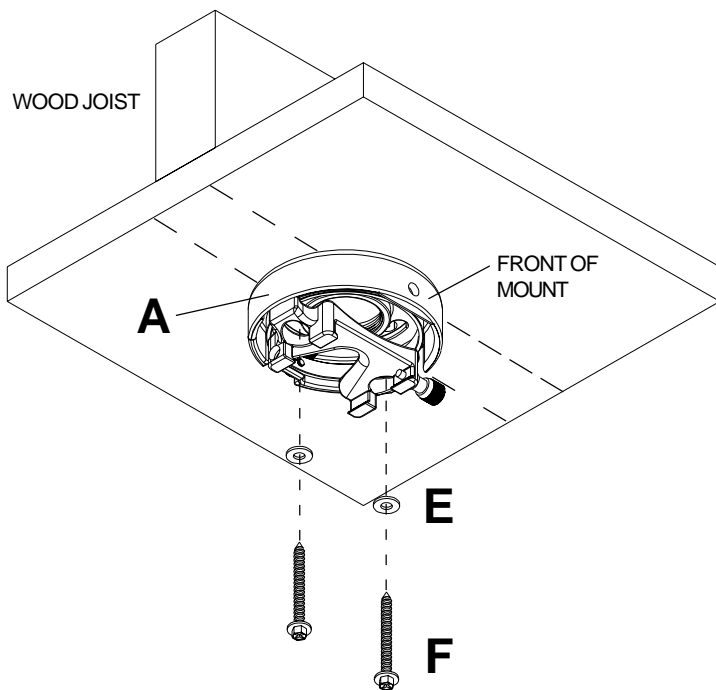
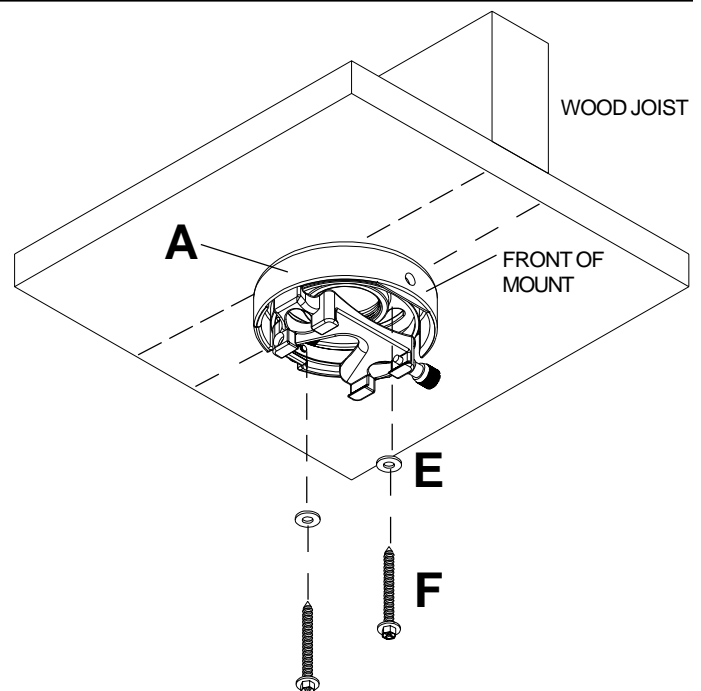

figure 1
figure 2
- 2** Drill two 5/32" (4 mm) dia. holes to a minimum depth of 2.5" (64 mm). Attach projector mount assembly (**A**) with two #14 x 2.5" (6 mm x 65 mm) wood screws (**F**) and two flat washers (**E**) as shown in **figure 1** or **figure 2** depending on joist orientation. Tighten wood screws (**F**) using 3/8" (10 mm) socket wrench until projector mount assembly (**A**) is firmly attached.